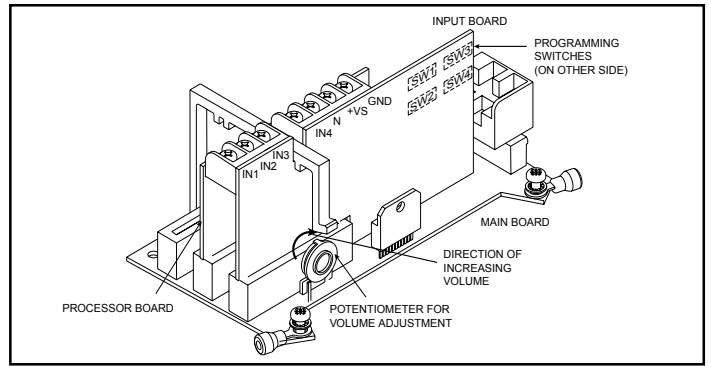

Figure 14. 5540M Series PC Board Locations
- 5. Refer to Figures 14, 15 and 19 and select desired tones. On the tone generator, set miniature programming switches on the input board.